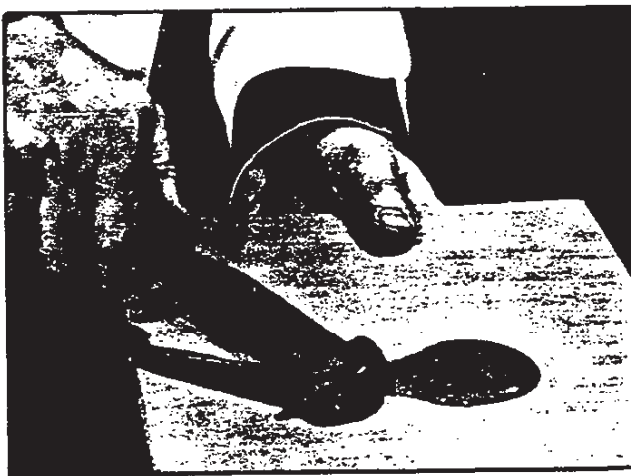

Fig. 49—Mixing Plastic Solder Material
2. Mix the materials (fig. 49).